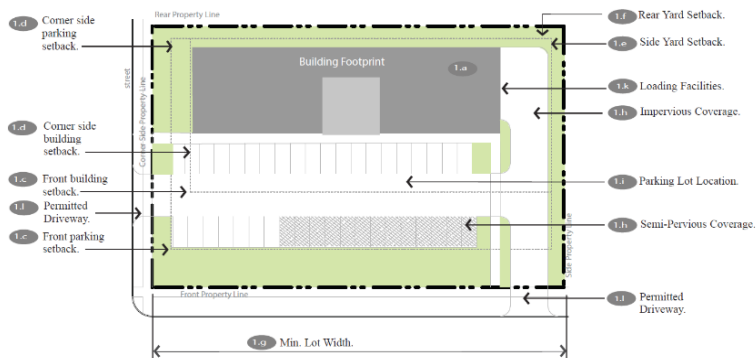

Figure 3.Ib-1: Building Siting
1. Building Siting. (Refer to Figure 3.N-1)
1. Building Siting. (Refer to Figure 3.O-1)
1. Building Siting. (Refer to Figure 3.P-1)
1. Building Siting. (Refer to Figure 3.Q-1)
1. Building Siting. (Refer to Figure 3.R-1)
1. Building Siting. (Refer to Figure 3.S-1) Street Frontage.
1. Building Siting. (Refer to Figure 3.T-1) Street Frontage.
. Building Siting. (Refer to Figure 3.U-1)
1. Building Siting. (Refer to Figure 3.V-1)
1. Building Siting. (See Figure 3.I-1)